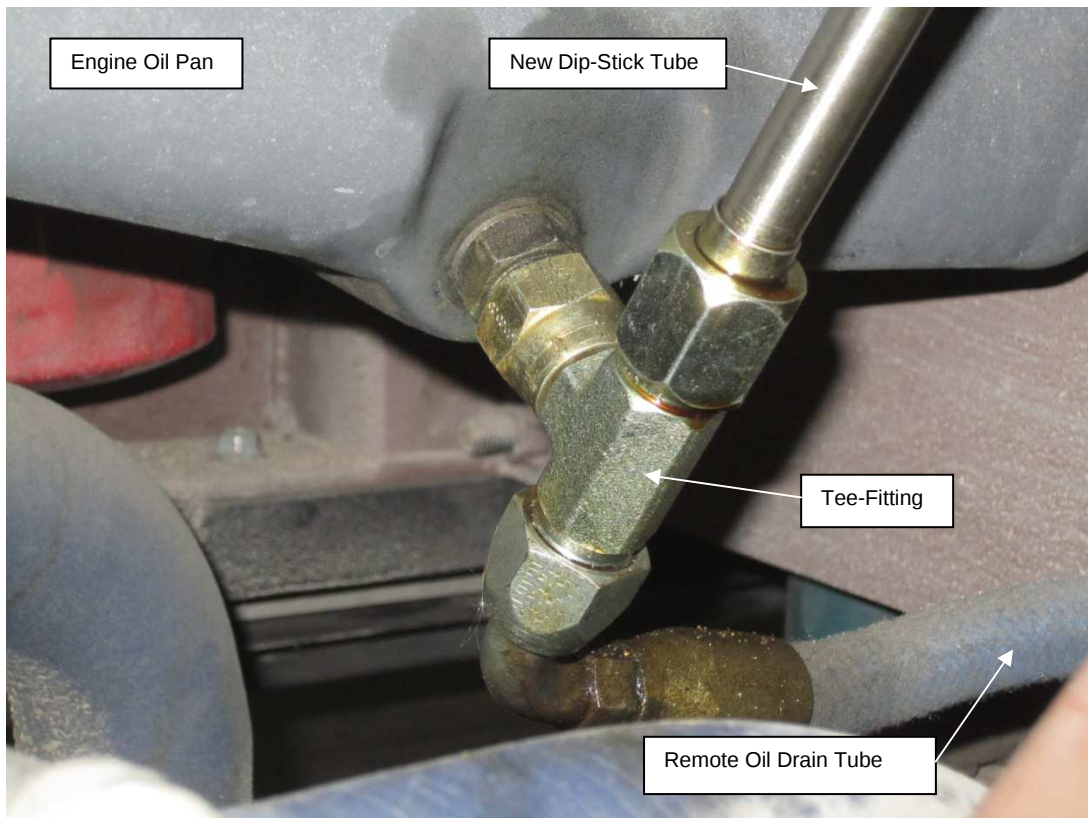
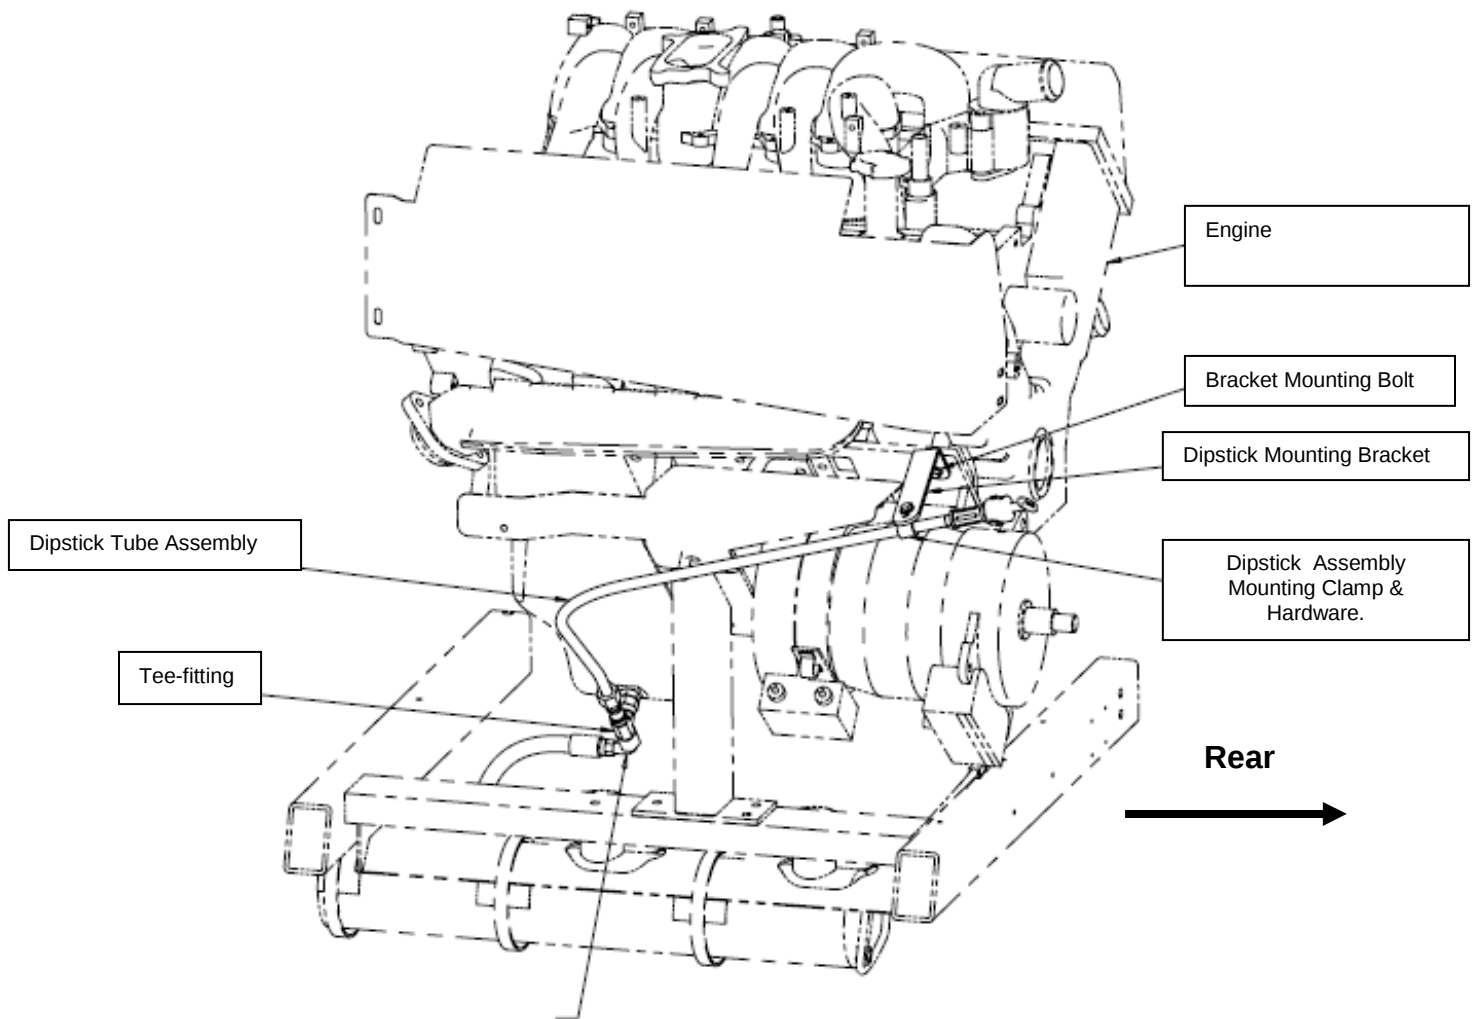

Figure 1: Oil Pan Connection Detail
Figure 2: New Engine Oil Dipstick Installation.
5. Install a tee-fitting NF P/N 491256 on the oil pan drain. Orient the tee-fitting so that it is vertical with one opening at 6 o'clock and the other opening at 12 o'clock. Figure 1.
6. Re-install the remote oil drain tube on the tee-fitting opening located at 6 o'clock. Torque fitting to 43-48 FT-LBS. Figure 1.
8. Locate the alternator mounting plate on the street side of the engine. Figure 2.
10. Install the dip stick tube mounting bracket NF P/N 491715 using the bolt removed in Step #9. Figure 2.
11. Attach the new dip stick assembly NF P/N 491306 to the mounting bracket using a clamp NF P/N 247221, nut NF P/N 40N04000, two washers NF P/N 10W04000 and bolt NF P/N 10B04016. Torque hardware to 12-14 FT-LBS. Figure 2.
12. Attach the end of the new dip stick tube to the new tee-fitting installed previously on the engine oil pan fitting. Figure 1 & Figure 2. Torque fitting to 43-48 FT-LBS.